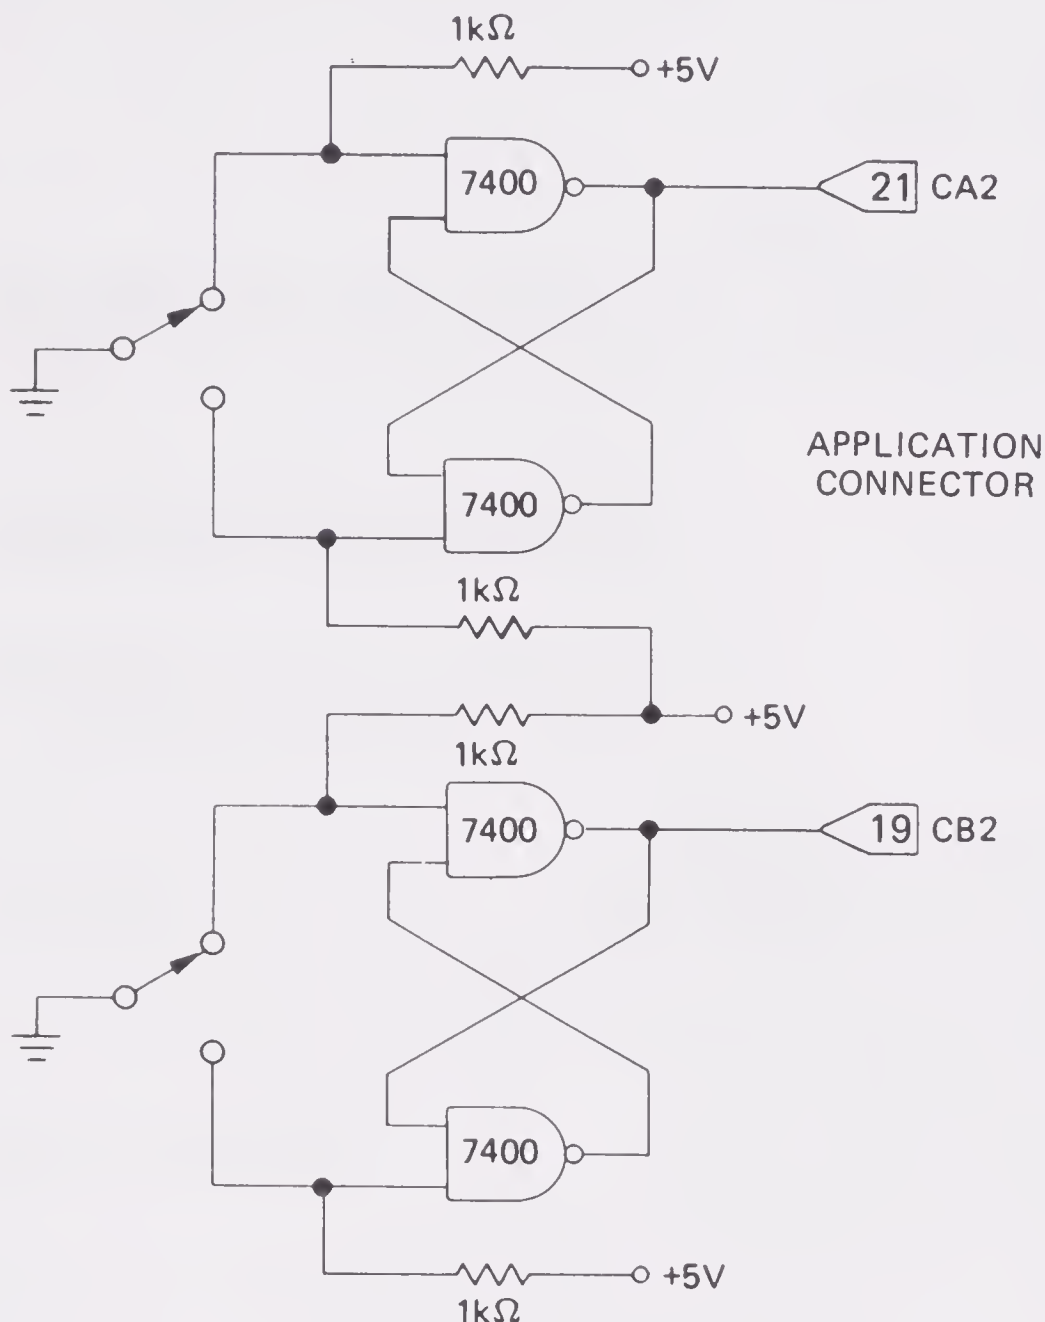

FIGURE B-2. Attachment of switches to user VIA control lines CA2 and CB2.
- Two LEDs and two switches attached to CA2 and CB2 of the user VIA as shown in Figures B-2 and B-3. Table B-1 gives the pin assignments. The switches should be debounced with cross-coupled NAND gates. The LEDs should be attached by their cathodes. Jumper wires can select between the LEDs and the switches to avoid damage to the gates.